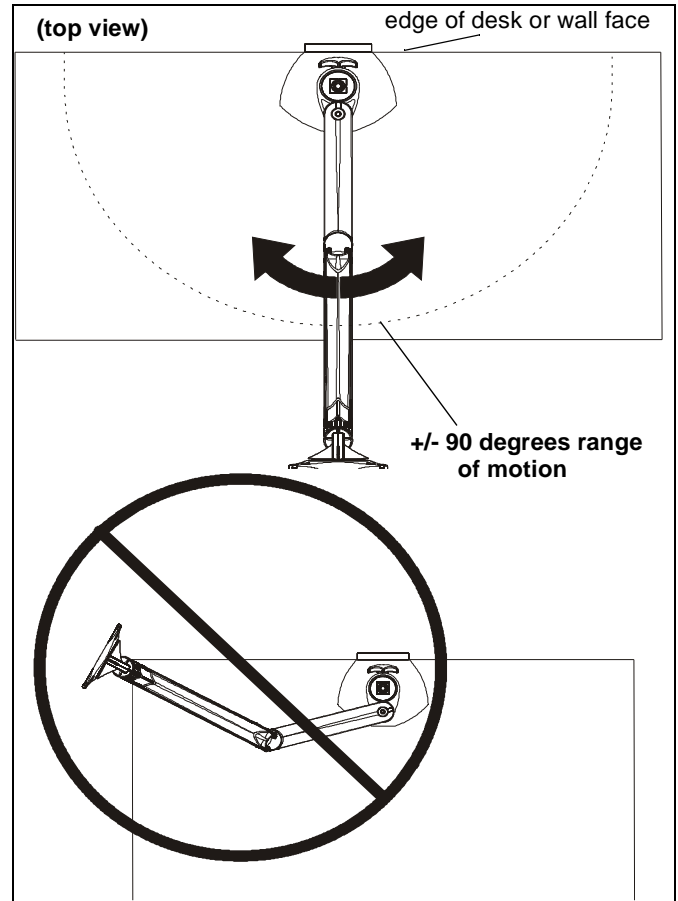

Figure 12
1. Adjust arm angle as desired up to 90 degrees in either direction. (See Figure 12)